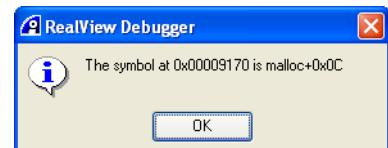

Figure 13-44 Symbol at a Stack address
2. Select **Display Symbol at Address** from the context menu to display the Prompt dialog box. This shows the symbol, if any, at the address of the chosen Stack entry. Figure 13-44 shows an example. If no symbol is present at the address, the text <None> is shown in place of the symbol in the dialog box.